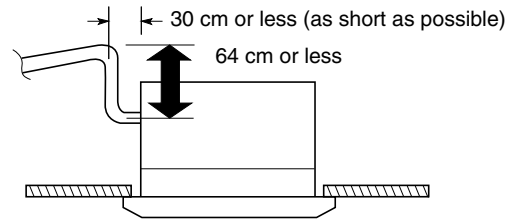

Fig. 3-40
- If it is necessary to increase the height of the drain pipe, the section directly after the connection port can be raised a maximum of 64 cm. Do not raise it any higher than 64 cm, as this could result in water leaks. (Fig. 3-40)